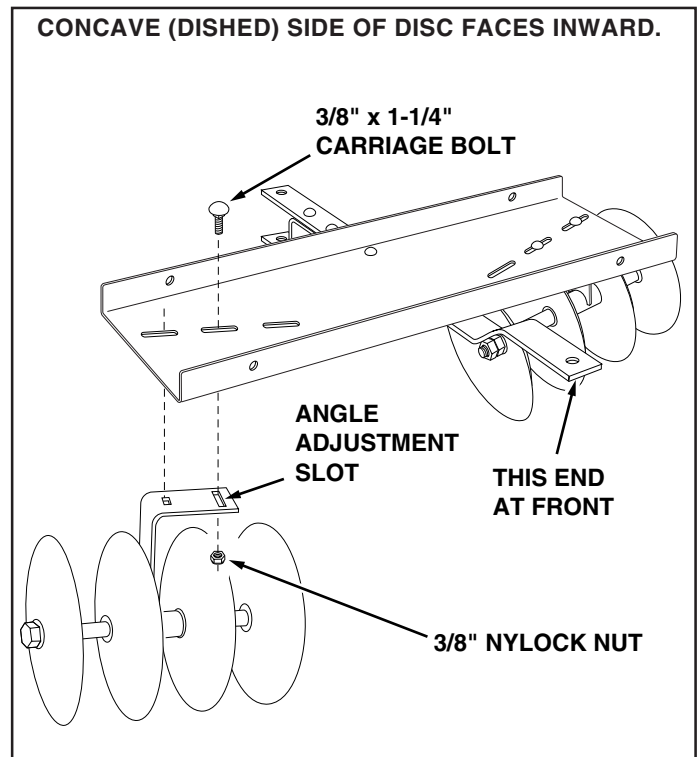

FIGURE 6
6. Assemble the disc assemblies to the **outer** slots in the tray using four 3/8" x 1-1/4" carriage bolts and 3/8" nylock nuts. Swivel the disc assemblies so that the carriage bolt is centered in the angle adjustment slot. This places the discs at the standard 15 degree angle. **Tighten.** See figure 6.